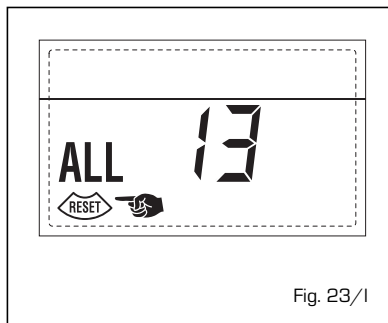

Fig. 23/l
- "ALL 14" EXHAUST FUMES PROBE ERROR (fig. 23/m)